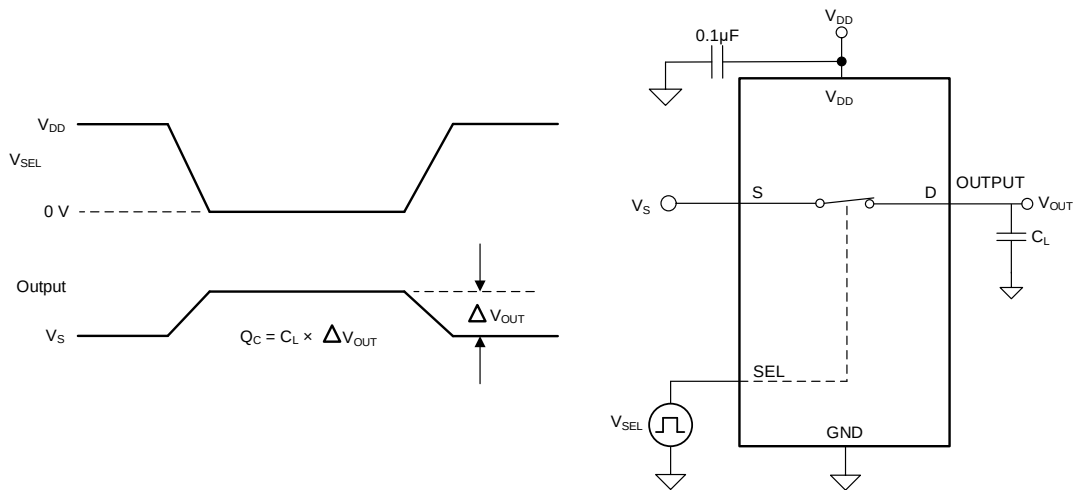

Figure 5. Charge-injection measurement setup
The TMUX110x devices have a transmission-gate topology. Any mismatch in capacitance between the NMOS and PMOS transistors results in a charge injected into the drain or source during the falling or rising edge of the gate signal. The amount of charge injected into the source or drain of the device is known as charge injection, and is denoted by the symbol Q_C . Figure 5 shows the setup used to measure charge injection from source (S) to drain (D).